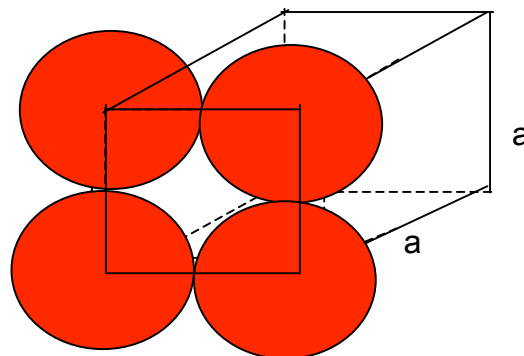

Figure 1.13: A simple cubic lattice showing relative positions of atoms on one face.
- An example in how to calculate packing fraction. Consider a simple cubic lattice (sc) shown in Fig. 1.13.
- (ii) In a sc, the atoms are in contact with one another only along the edges of the cell as shown in Fig. 1.13.